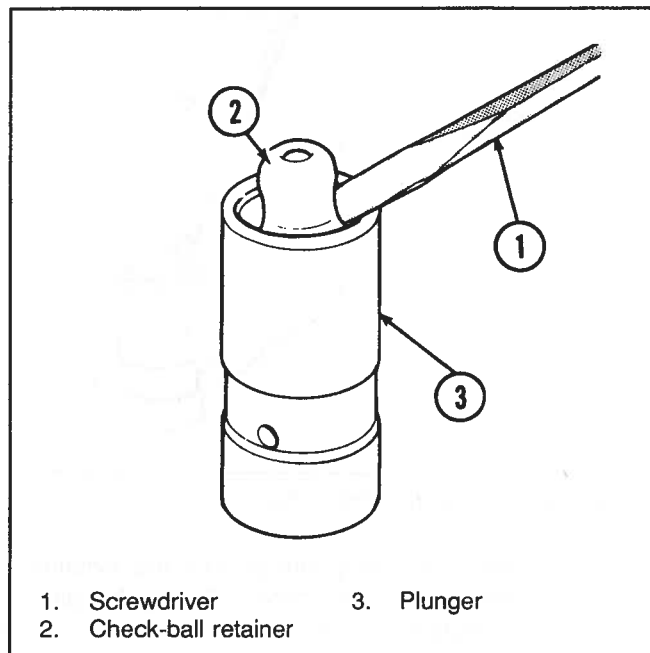

Figure 8-119. Removing Check-Ball Valve
2. With engine in No. 1 firing position as determined above, see Figure 8-119 for information on which valves may be adjusted.